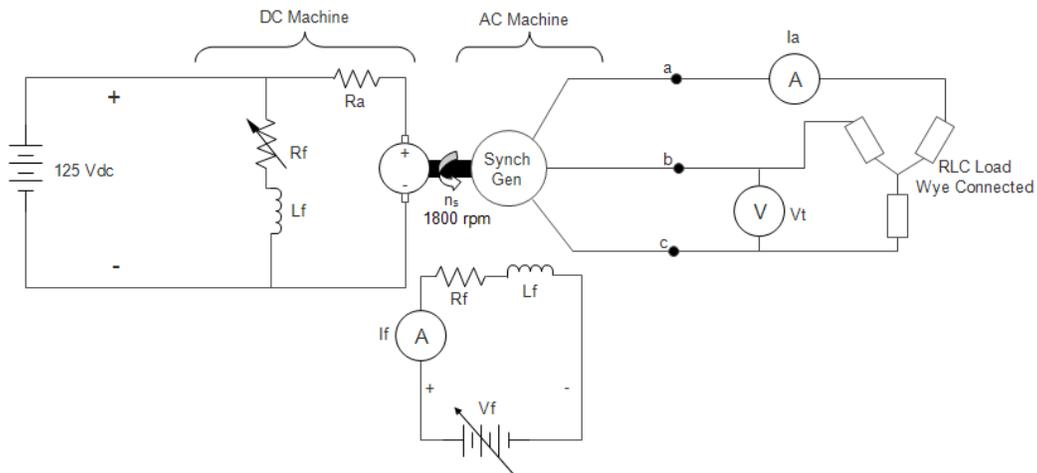

Figure 9.2. Loading the synchronous generator.
- Connect the generator to a resistive load (connected in WYE). See figure 9.2